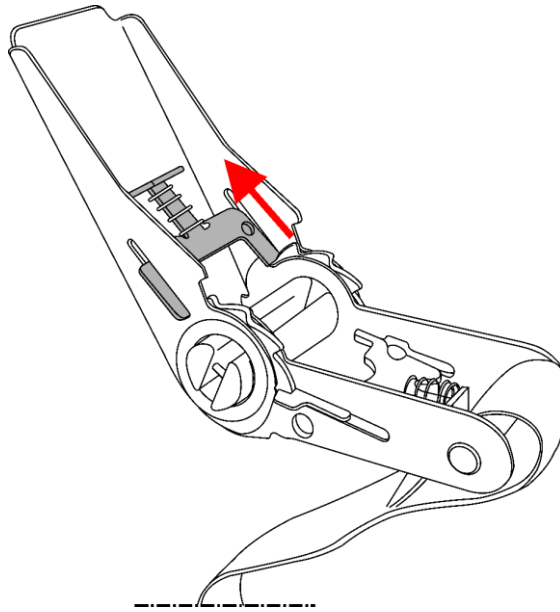

Fig. 10
- 01) Slightly open the **ratchet (03)**.
- 02) Pull on the spring-loaded clip and fully open the **ratchet (03)** (Fig. 10).